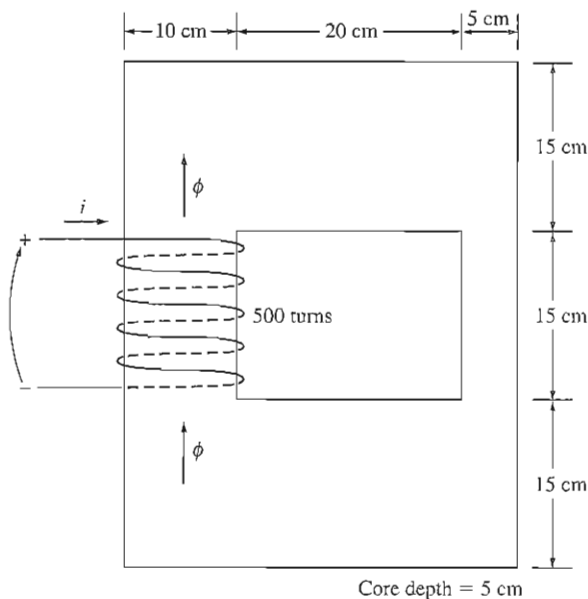
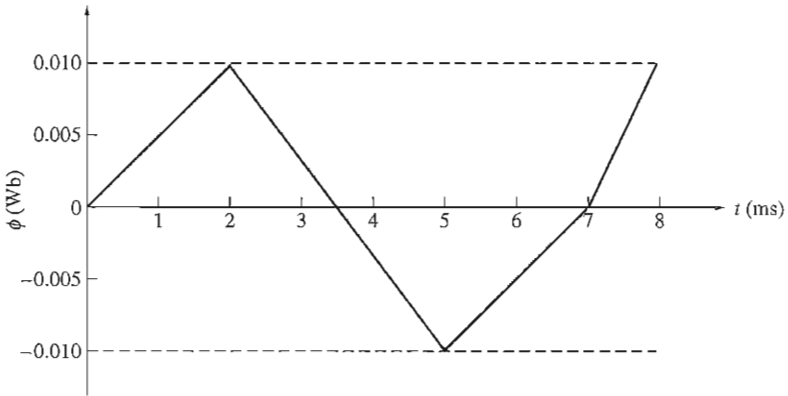

FIGURE P1-2
FIGURE P1-12
- 1-5. A ferromagnetic core is shown in Figure P1-2. The depth of the core is 5 cm . The other dimensions of the core are as shown in the figure. Find the value of the current that will produce a flux of 0.005 Wb . With this current, what is the flux density at the top of the core? What is the flux density at the right side of the core? Assume that the relative permeability of the core is 800 .
- 1-16. The core shown in Figure P1-2 has the flux ϕ shown in Figure P1-12. Sketch the voltage present at the terminals of the coil.